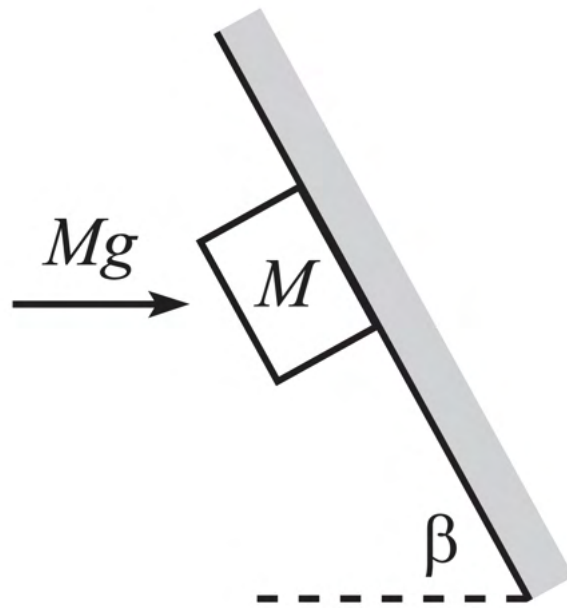

Figure 7: Mass on overhang
7. A block of mass  $M$  is positioned underneath an overhang that makes an angle  $\beta$  with the horizontal. You apply a horizontal force of  $Mg$  on the block, as shown in figure 7. If the coefficient of static friction is  $\mu$ , for what range of angles  $\beta$  does the block remain at rest? (Morin)